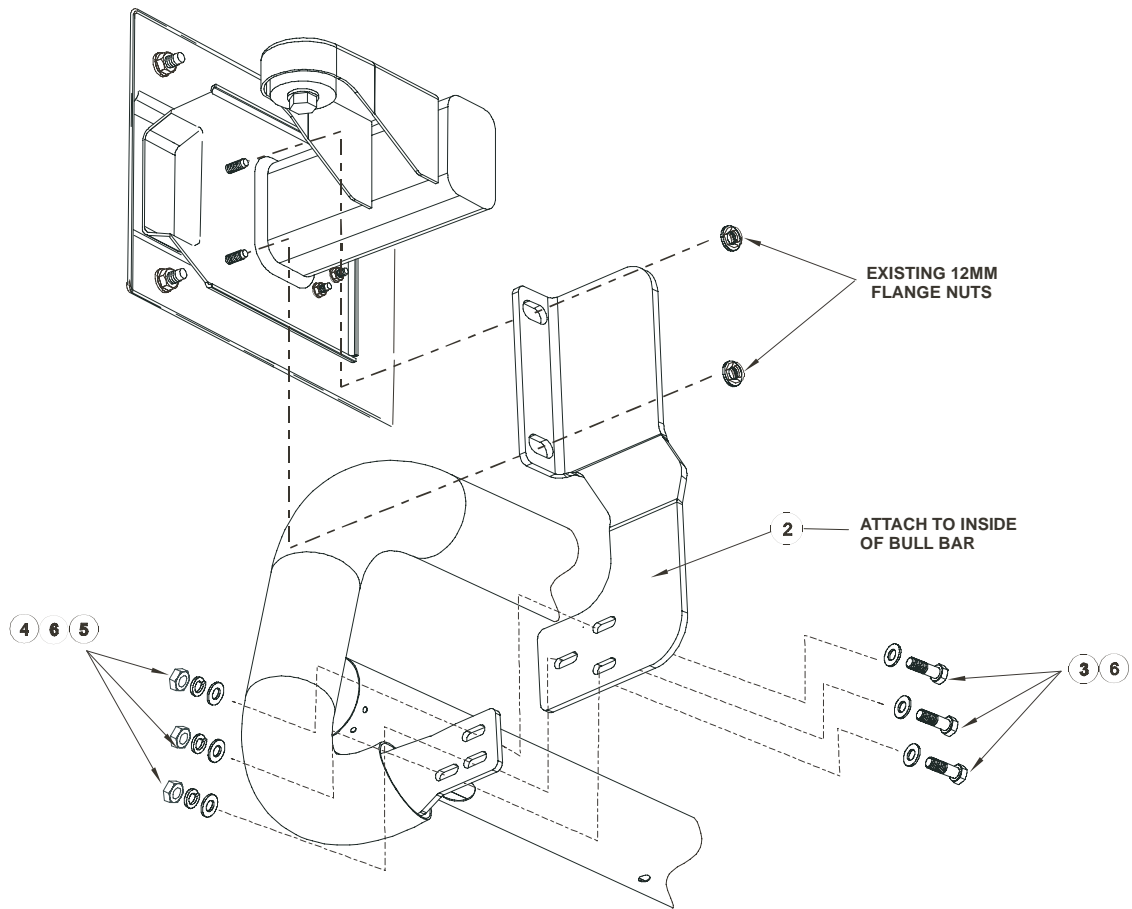

FIGURE 1
3. Unbolt existing flange nuts on outside of frame rail and attach brackets as shown. Leave Loose. **SEE FIGURE 1**